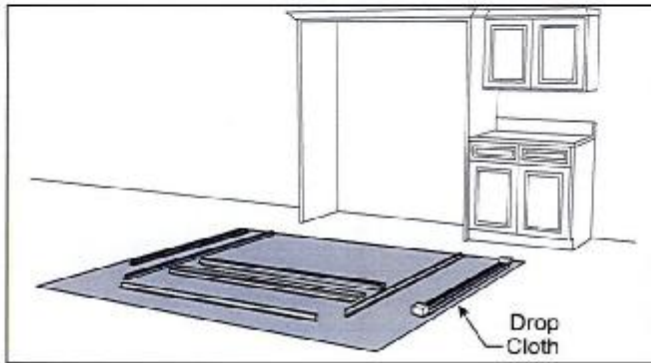

Figure 1.
1. Lay the parts out on a cleared area face down. Be sure to place a drop cloth over the floor to prevent scratching trim kit and/or floor. (See Figure 1).